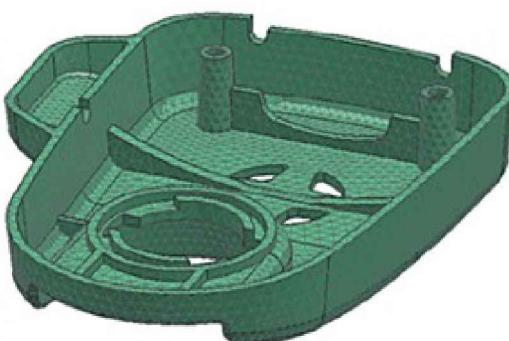

Figure 2.40. Creating the FE mesh
- To create the mesh, click **3D Tetrahedral Mesh** on the Finite Element Model toolbar (Figure 2.40):